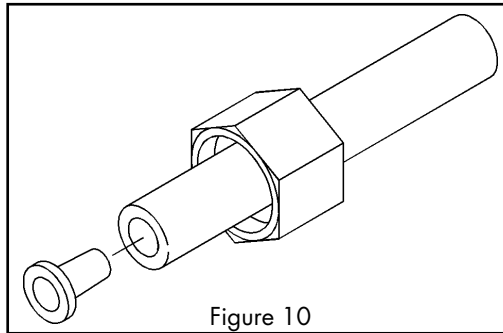

Figure 10
- Slip the white nut over one end of the tubing and press the plastic insert into the end of the tubing (Figure 10). Connect to the brine valve and tighten nut.
- Slip the white nut over one end of the tubing and press the plastic insert into the end of the tubing (Figure 10). Connect to the brine connection on the valve and tighten nut